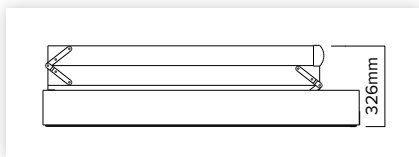

figure 2
- The area for the opening must be clear of wiring, plumbing and structural members such as beams and trusses with a minimum clear height above the ceiling of 326mm (figure 2).